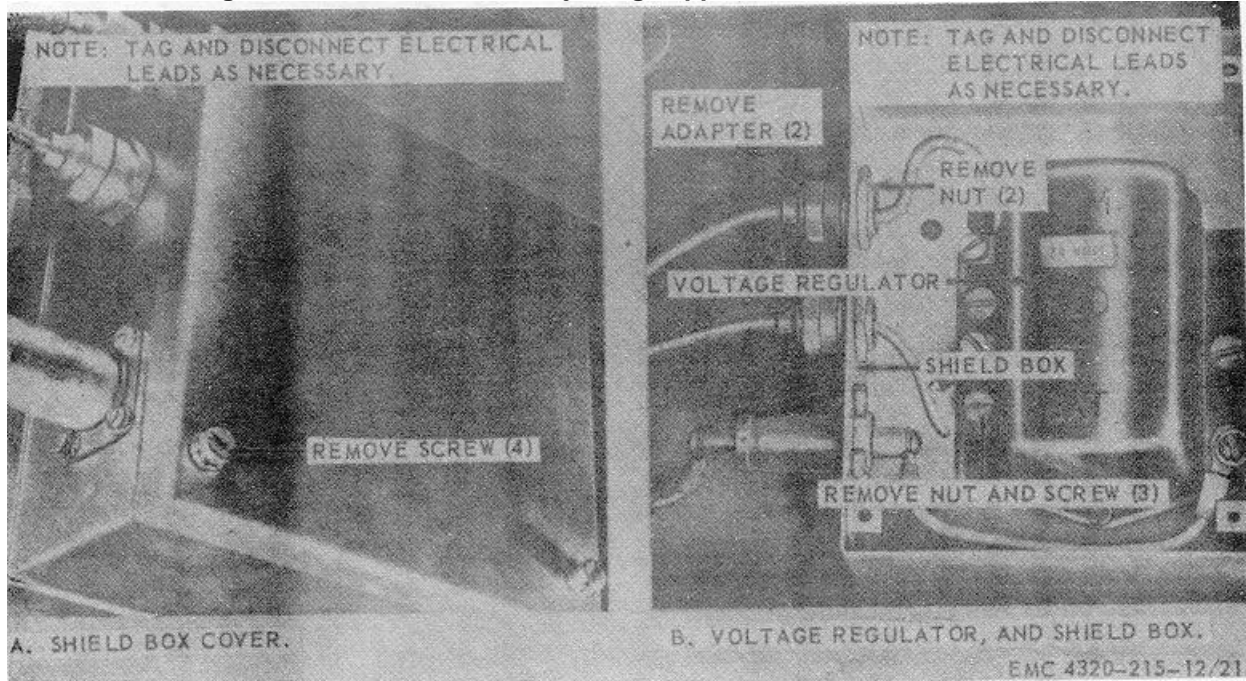

Figure 21. Voltage regulator and shield box, removal and installation.
b. Remove and install the voltage regulator and shield box as shown by figure 21.